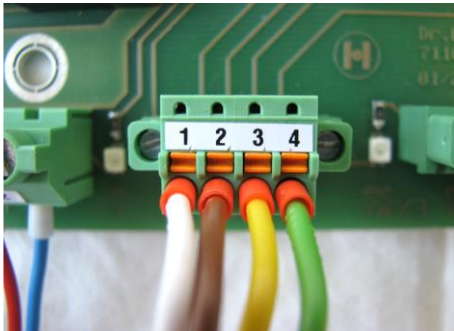

Fig. 85: Connecting the bus cable
1. Connect the conductors of the bus cable according to Fig.85. For details refer to the respective terminal diagrams.